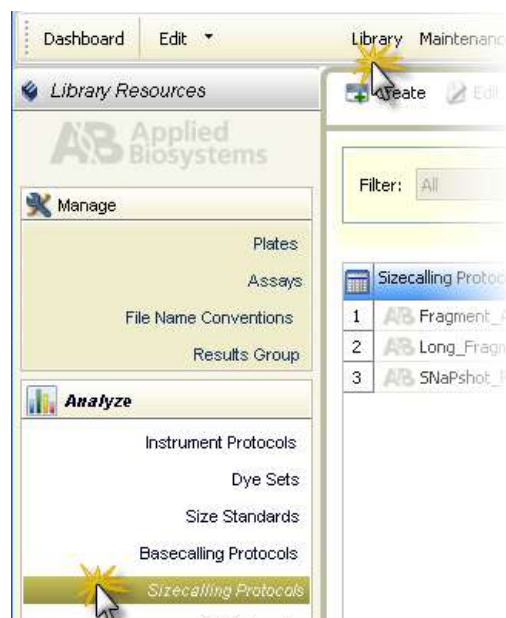

Figure 25 Create New Sizecalling Protocol – Analysis Settings
3. In the Analysis Settings tab of the Create New Sizecalling Protocol dialog box (Figure 25 on page 181), specify settings (see Table 10 on page 181).